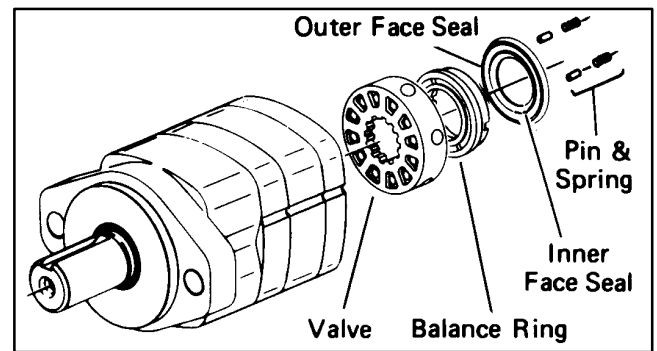

Figure 71
6. Remove 2 pins and 2 springs from balance ring assembly, see Fig. 71.